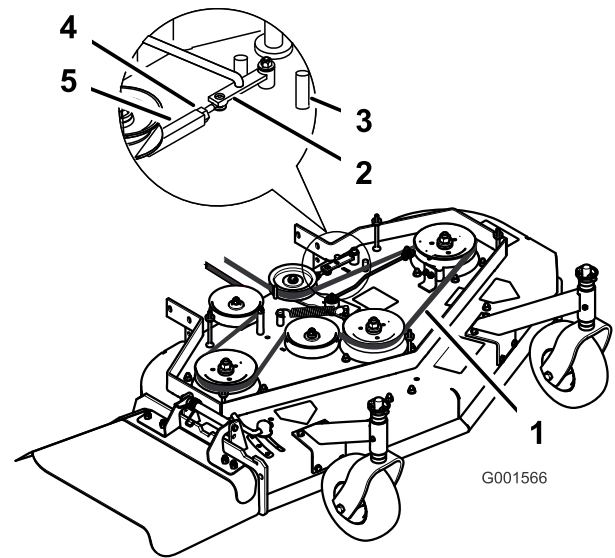

Figure 53
3. Loosen the locknut on the turnbuckle (Figure 53).
4. Rotate the turnbuckle toward the rear of the mower to increase the tension on the belt. Rotate the turnbuckle toward the front of the mower to decrease the tension on the belt (Figure 53).